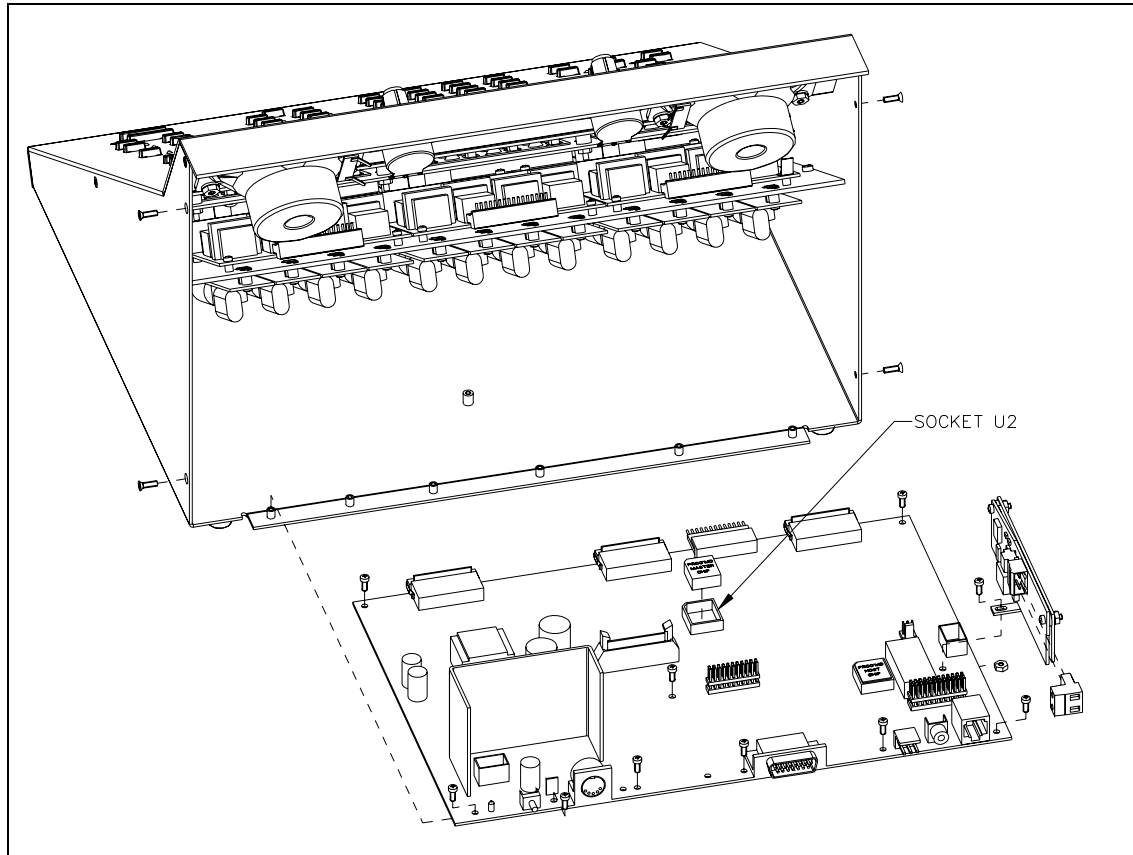

Figure 3.
7. Remove the nine screws holding the main PCBA to the base. See Figure 3.
8. Lift the main PCBA out of the main enclosure. Then, attach the Stat-Alert module to the main PCBA using the hardware provided with the kit. See Figure 3.